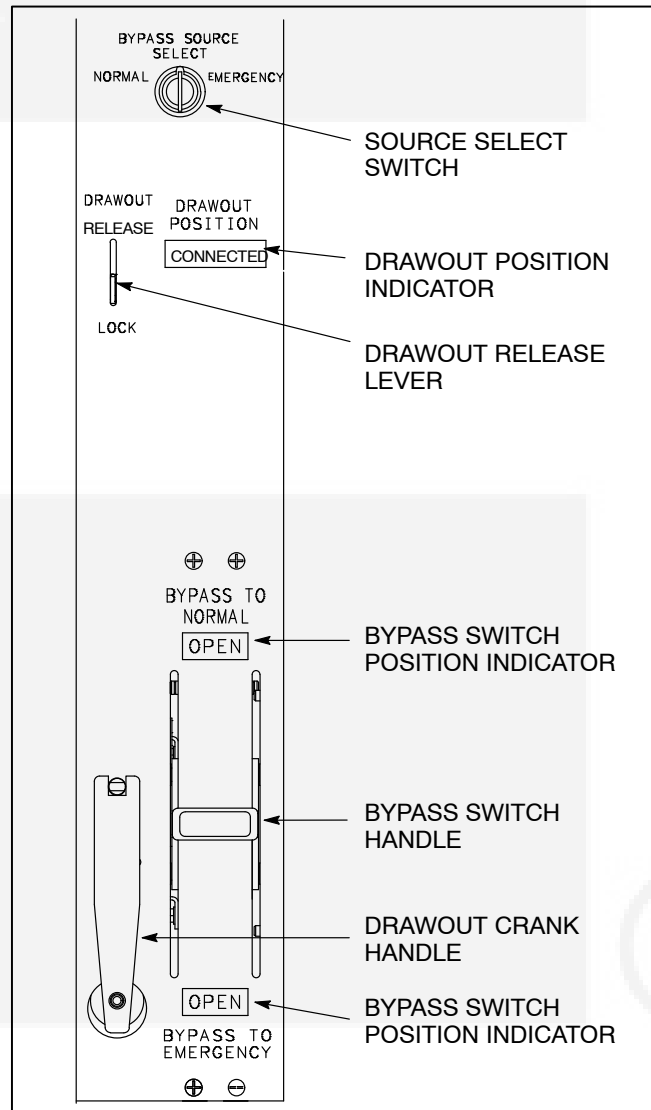

FIGURE 4-2. 150–1000 AMP BYPASS PANEL
- **Drawout Position Indicator:** On Bypass switch panel in AUTOMATIC position (Figure 4-2).
- **Bypass Switch Handle:** Center position. Both bypass switch position indicators should read OPEN (Figure 4-2).
- **Source Selector Switch:** NORMAL for Source 1 power, EMERGENCY for Source 2 power (Figure 4-2).
1. Turn and hold the Bypass Source Select switch in the Normal position (Figure 4-2).
2. Extend the drawout cranking handle from the storage position (Figure 4-2).